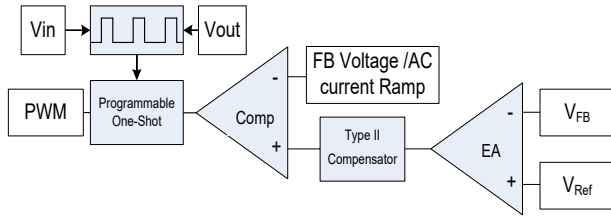

Figure 9. Simplified Control Schematic of AOZ24585QV
The control algorithm of AOZ24585QV is constant on-time PWM control with input feed-forward. The simplified control schematic is shown in Figure 9. The high-side switch on-time is determined by Fsw pin strap and it's inversely proportional to input voltage (IN). The one-shot is triggered when the Vref is higher than the combined information of FB voltage, internal error amplifier and the AC current ramp, which is processed and obtained through the sensed lower-side MOSFET current once it turns-on. The added AC current information can help the stability of constant-on time control even with pure ceramic output capacitors, which have very low ESR. The AC current information has no DC offset, which does not cause offset with output load change, which is fundamentally different from other V^2 constant-on time control schemes.